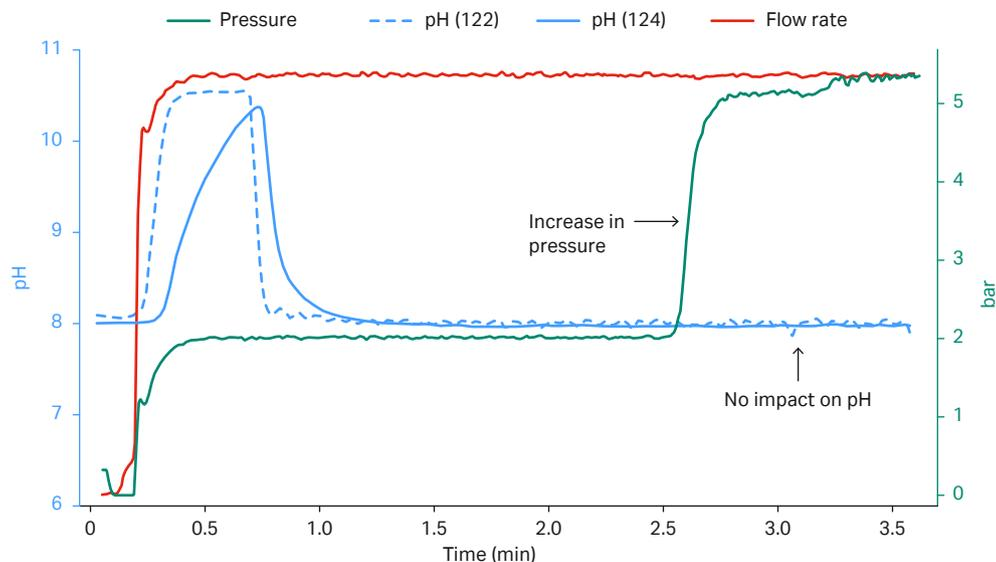

Fig 1. Pressure and pH readings during preparation of 16.0 mM Tris, 13 mM NaCl, pH 8.0 at 600 L/h.
A. Essentially, no influence. When changing the outlet to a manual valve that was half closed, no impact of the pressure increase on the pH and conductivity control was observed (Fig 1).